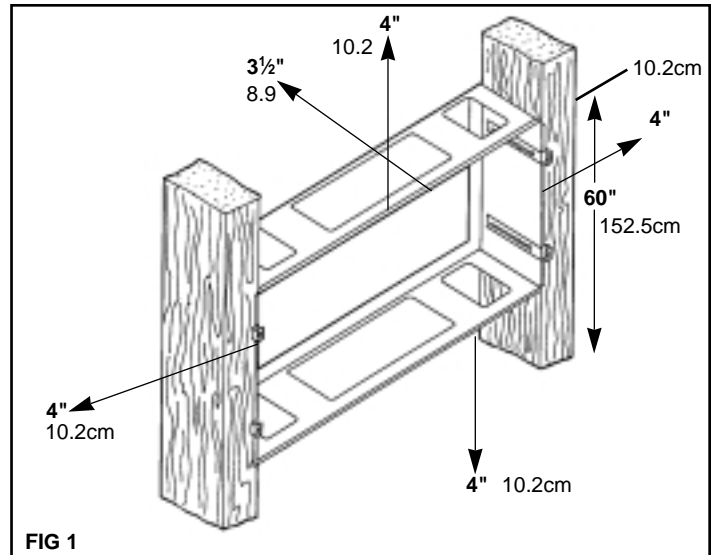

FIG 1
2. Refer to Fig. 1. Position frame only as shown. Install square and level at a convenient operation height (60" or 152.5 cm above floor to top of frame is normal for most installations).